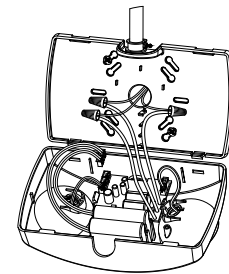

Figure 4
8. Adjust the heads towards the desired direction. (Figure 4)